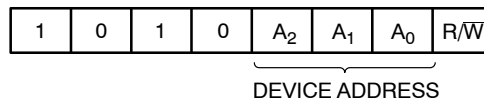

Figure 3. Slave Address Bits
The Master addresses a Slave by creating a START condition and then broadcasting an 8-bit Slave address. For the N24C64, the first four bits of the Slave address are set to 1010 (Ah); the next three bits, A2, A1 and A0, must match the logic state of the similarly named input pins. The R/ $\overline{W}$  bit tells the Slave whether the Master intends to read (1) or write (0) data (Figure 3). The device in WLCSP with 4 bumps responds only to address combination A2A1A0 = 000.